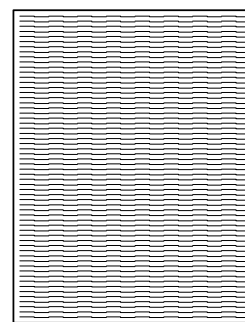

Figure 2
- a) If stripes cannot be seen (Figure 2), the D-phase adjustment is not required.
- a) If stripes cannot be seen (Figure 2), laser beam pitch adjustment is not required.
5. Repeat steps 2 through 4 until the black stripes disappear (Figure 2).